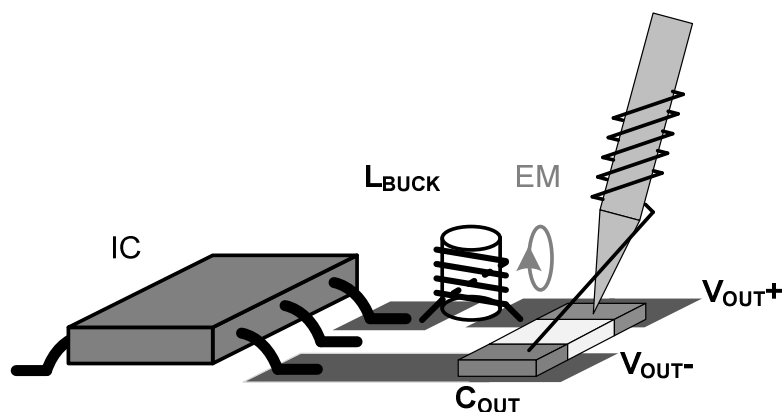

Figure 4. Recommended way to measure the output voltage ripple
A proper output ripple measurement should be done according to Figure 4 setup. Output voltage ripple should be measured across the output ceramic cap near the IC.
1. Remove the ground clip and head of the probe. Wind thin wires around the ground ring of the probe. Solder the end of the ground ring wire to the negative node of the C_{OUT}. Touch the probe tip to the positive node of the C_{OUT}. Refer to Figure.4.
3. Change the probing direction to decouple the electromagnetic noise generated from the nearby buck inductor (Refer to Figure.4).